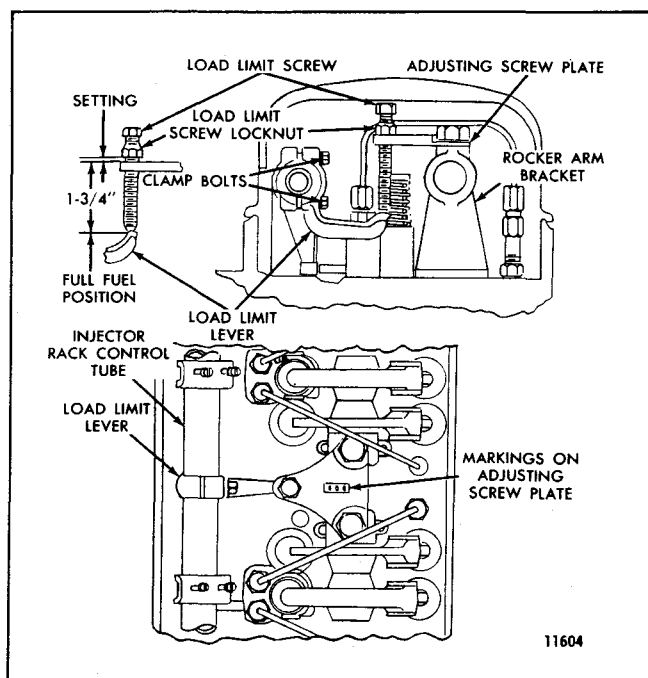

Fig. 1 - Engine Load Limit Device
Engines with mechanical governors may be equipped with a load limit device (Fig. 1) to reduce the maximum horsepower.
Fig. 1. Make sure the counterbores in the adjusting screw plate are up. The rocker arm shaft bracket bolts which fasten the adjusting screw plate to the brackets are tightened to 75-85 lb-ft (102-115 Nm) torque. All other rocker arm shaft bracket bolts are tightened to 90-100 lb-ft (122-136 Nm) torque. Then adjust the load limit device as follows:
3. With the screw out of the plate, adjust the load limit screw lock nut so the bottom of the lock nut is 1 3/4" from the bottom of the load limit screw (Fig. 1) for the initial setting.